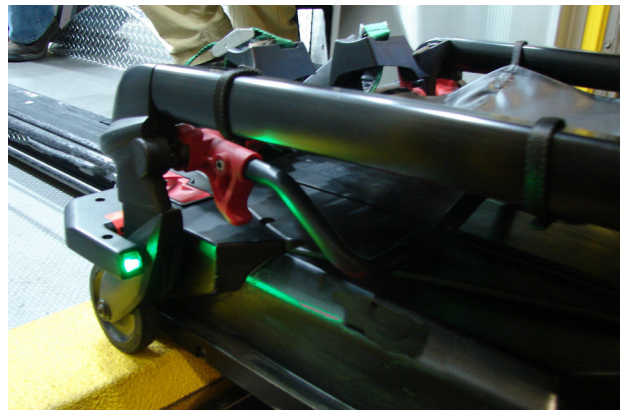

Figure 56
4. Push the cot into Power-LOAD until the cot load wheel pins lock into position as shown in Figure 56. Ensure that the cot is aligned with the lifting arms when loading.